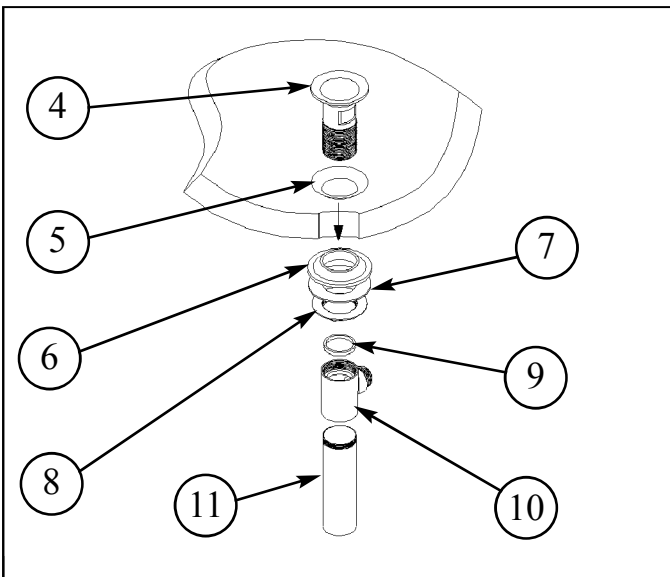

Figure 3
3. Drain assembly not included with 2413. Remove drain PLUG (4) from FLANGE (5). Place FLANGE (5) and white WASHER (6) through sink drain opening. (Clear silicone may be used in place of white washer.) From bottom side of sink, place cone shaped rubber WASHER (7) onto FLANGE (5) and slide up against sink bottom. Note: Cone portion of WASHER (7) to face upward. Next slide on clear flat WASHER (8) and secure with flange NUT (9). Place clear WASHER (10) into drain BODY (11) & tighten to FLANGE (5). Apply thread sealant to TAILPIECE (12) and attach to drain BODY (11). Attach TAILPIECE (12) to p-trap drain (not included). See Figure 3.